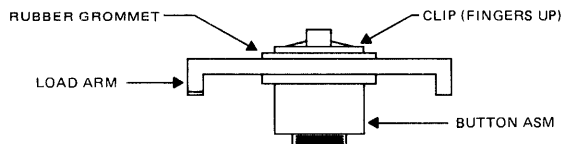

FIGURE 13
- e. To install load button on metal arm, place the new button on the arm. On the back of the arm place the rubber grommet. Holding the button, push the clip over the plastic stud until it is tight against the rubber grommet. Reference Figure 13.